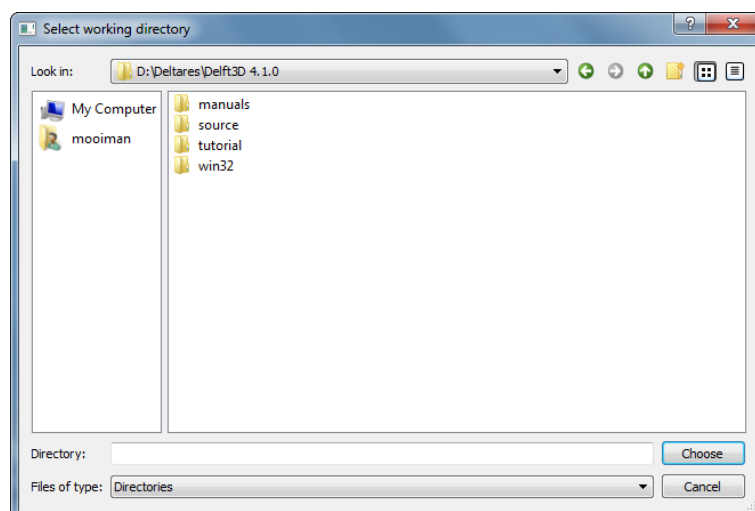

Figure 3.2: *Select working directory* window to set the directory to for saving files
- ◇ Click the *Select working directory* button, see Figure 3.2 for the window displayed.